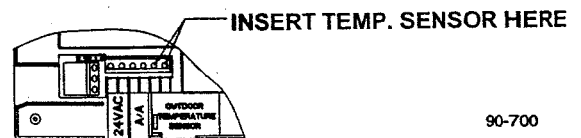

Figure 4. Outdoor Temperature Sensor Terminal
1. By connecting the Outdoor Temperature Sensor (see Figure 4), the Controller will use Outdoor Temperature and Indoor Humidity, along with the user-adjustable timer settings, to determine when to ventilate. **This is the recommended installation** as it uses all the advanced features of the Controller. For this installation, go to STEP 5.